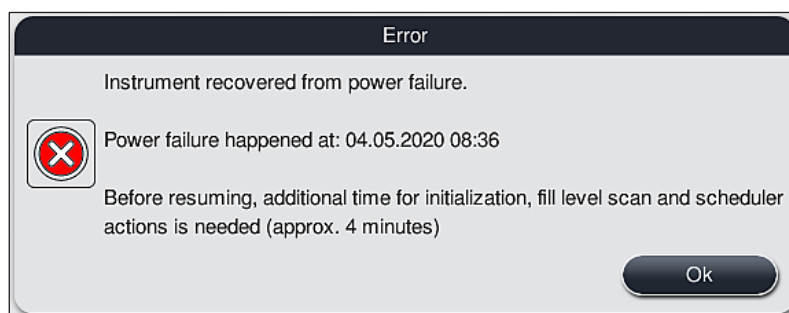

Fig. 106
- ① The first information message after the instrument restarts automatically notifies the user of the power failure time (→ "Fig. 106"). Confirm this information message by pressing the **OK** button to start the additional instructions for continuing the staining process.